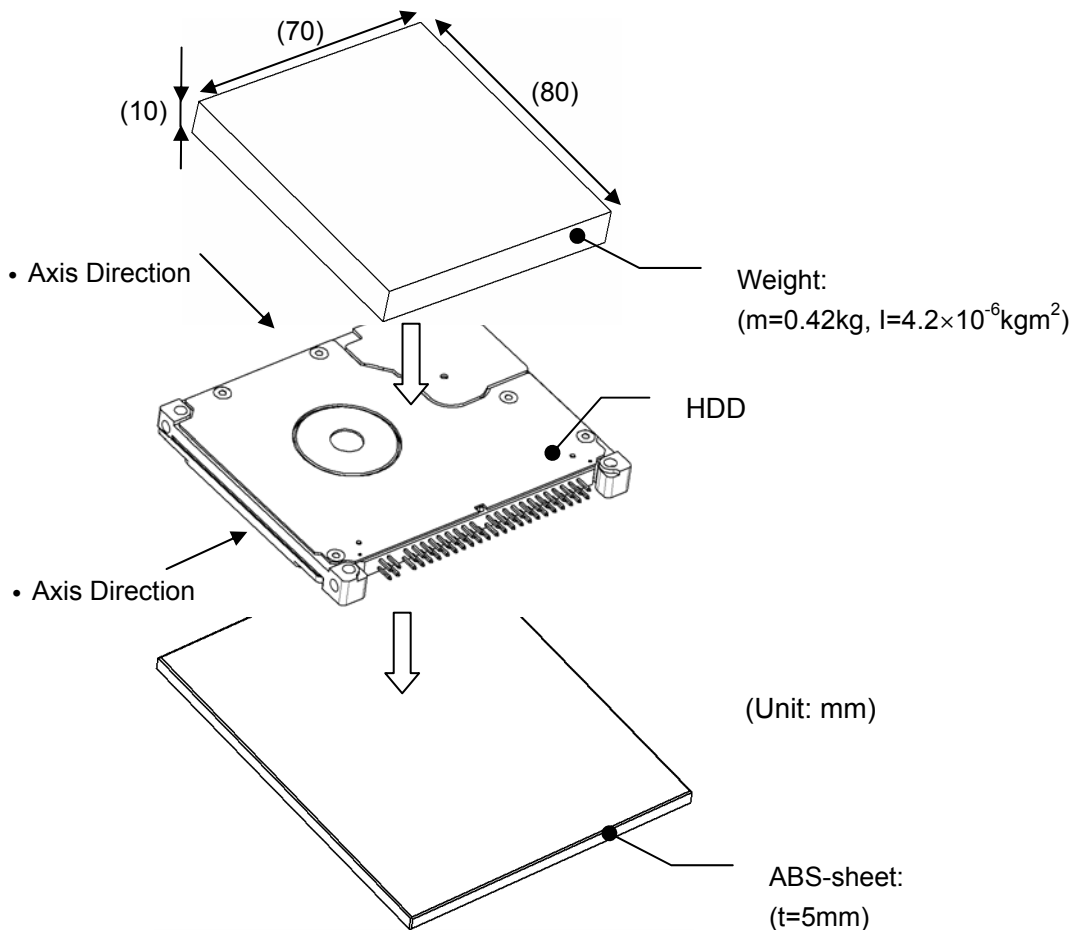

Figure 4-3 Single HDD Test Condition
- 3) If the HDD cannot be fixed by the required holding torque above item 1), put a body weight on the HDD as shown in Figure 4-3. The body weight is provided for preventing the HDD movement or HDD floating by tension of I/F cabling.